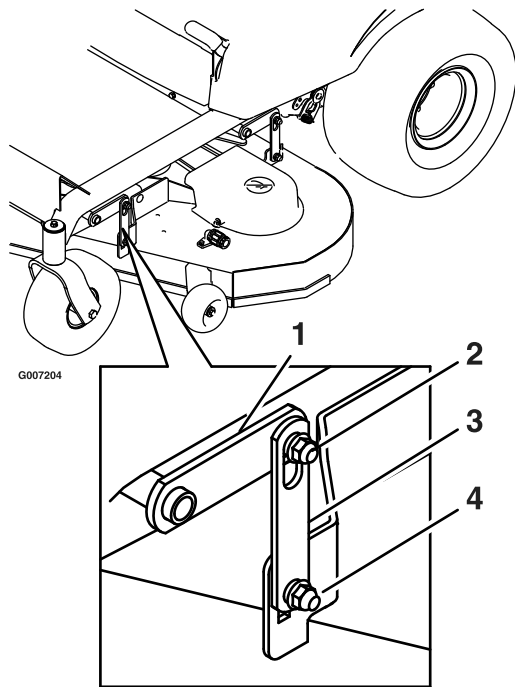

Figure 51
7. Loosen the leveling adjust locking nuts (item 4) on all four corners so that the deck is sitting securely on all four blocks. Make sure that the deck hangers are all the way down (at the top of the slot) and the deck lift foot lever is pushed back against the stop, then tighten the four leveling adjust locking nuts (Figure 51).